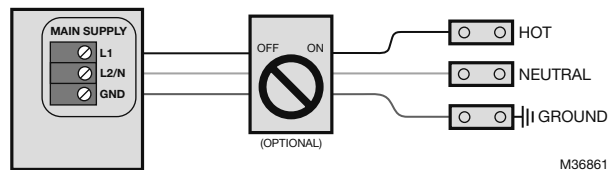
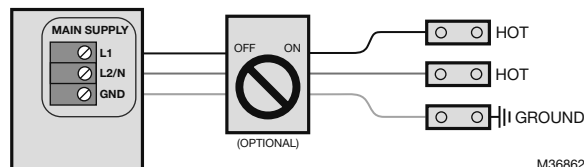

Fig. 21. 120 VAC (1 Phase) primary power connection.
Fig. 22. 240 VAC (1 Phase) primary power connection.
1. Install a disconnect switch between the humidifier and the circuit breaker as shown in Fig. 21 and Fig. 22 (optional).